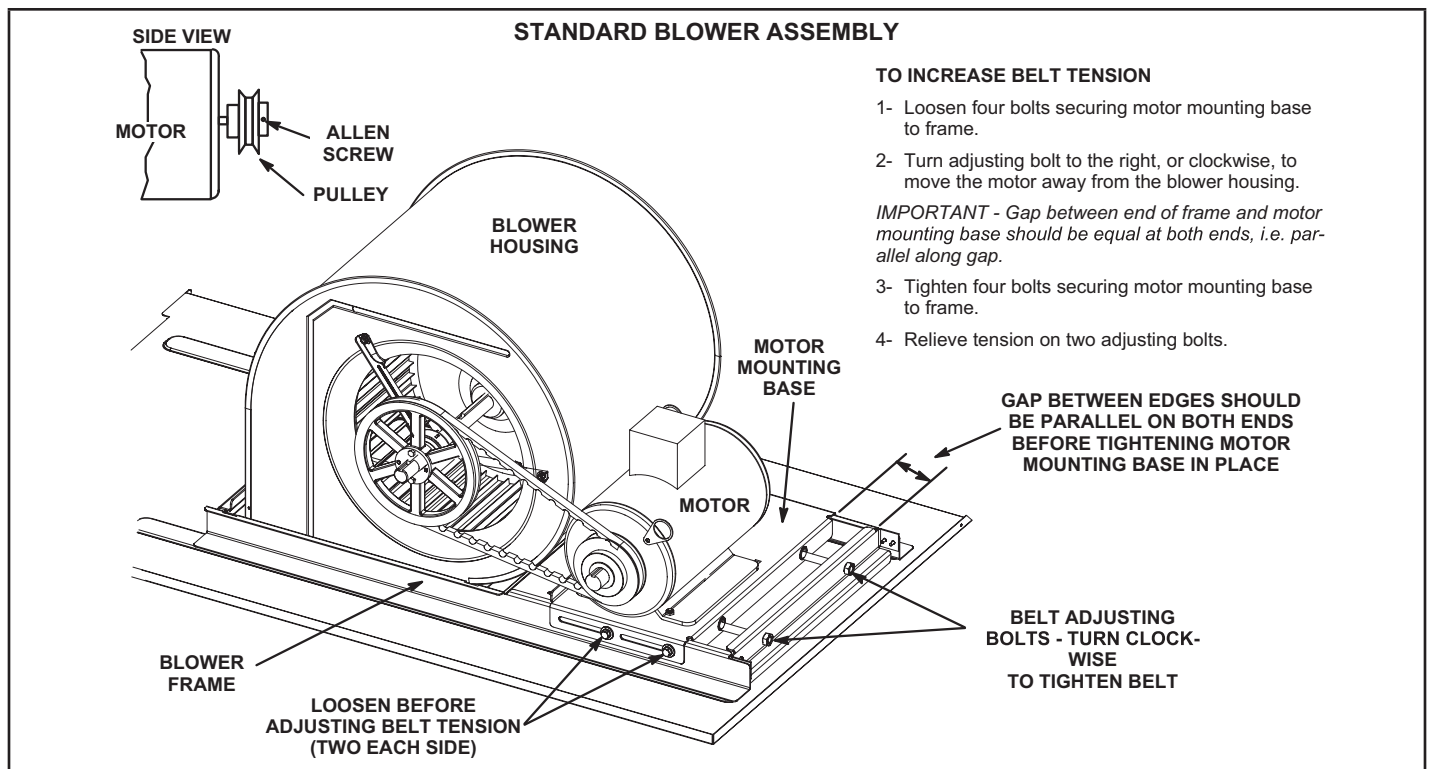

FIGURE 9
- 5 - The blower RPM can be adjusted at the motor pulley. Loosen Allen screw and turn adjustable pulley clockwise to increase CFM. Turn counterclockwise to decrease CFM. See FIGURE 9. Do not exceed minimum and maximum number of pulley turns as shown in TABLE 7.
- 1 - Loosen four bolts securing motor base to mounting frame. See FIGURE 9.